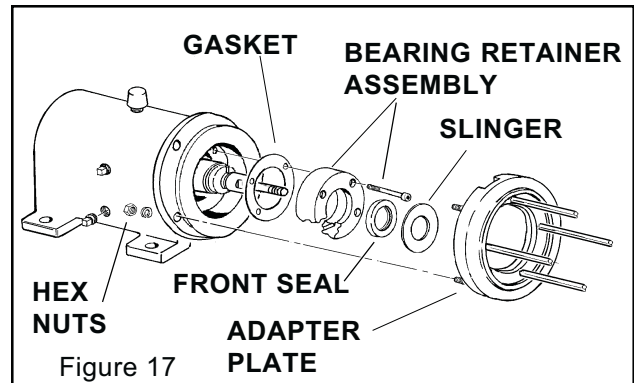

Figure 17
### Front Seal Replacement (Figure 17)
6. Replace front end assemblies. (Figure 17)